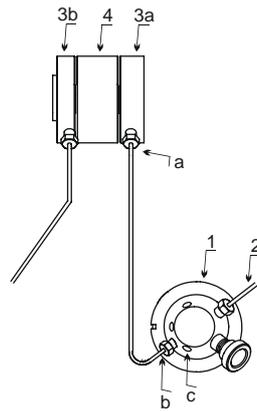
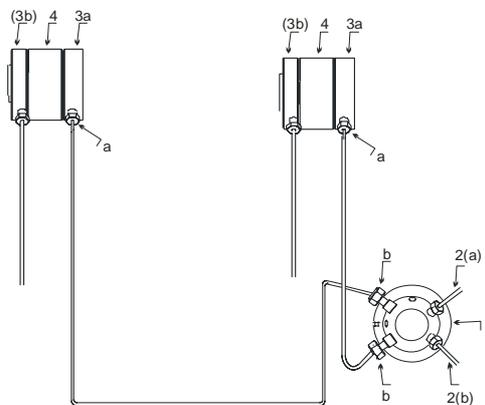

Fig. 65: Connections between mixing chamber and purge block (all pumps except P680A DGP-6)
Fig. 66: Connections between the two mixing chambers and the outlet block on a P680A DGP-6
**i** **Please note:** A P680A DGP-6 pump is fitted with 2 mixing chambers ( $\rightarrow$  Fig. 66).
- On the mixing chamber outlet, **loosen** the fitting screw of the capillary that connects the mixing chamber outlet to the purge block/outlet block inlet (→ Fig. 65 and/or Fig. 66, screw **a**). Do not remove the capillary on the mixing chamber outlet completely!
- On the purge block/outlet block inlet, **loosen** the fitting screw of the capillary that connects the mixing chamber outlet to the purge block/outlet block inlet (→ Fig. 65 and/or Fig. 66, screw **b**). Do not remove the capillary on the purge block/outlet block inlet completely!
- Tighten the capillary fitting screws on the mixing chamber outlet and on the purge block/outlet block inlet (→ Fig. 65 and/or Fig. 66, screws **a** and **b**).